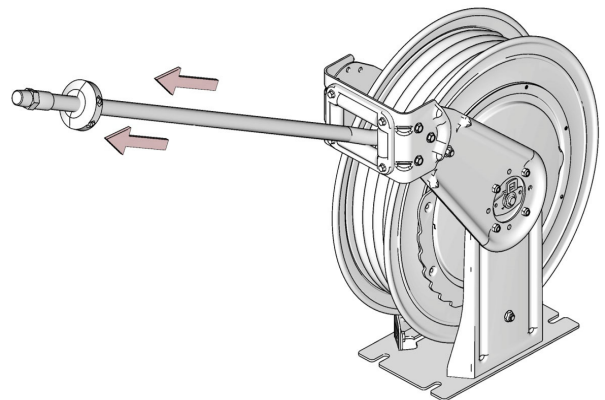

FIG. 16
7. Pull hose to test tension (FIG. 16).